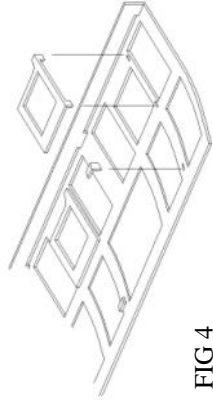

FIG 4
5. Remove the droplights (window frames) from the fret. The top door hinges are integral but you will have to remove the bottom door hinges (located on the fret between the two on the droplight and attached to it by a 'tab'). Bend the hinges through 90 degrees with the half etch line to the inside, then locate through the slots in the sides and solder. (Figure 4, below) The frets contains closed and partially open droplights for variation.